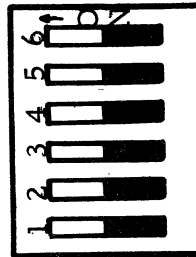

Figure 4 - SW1 Orientation
- () ● Insert and solder the 6 position dip switch (SW1) as follows (Figure 4):